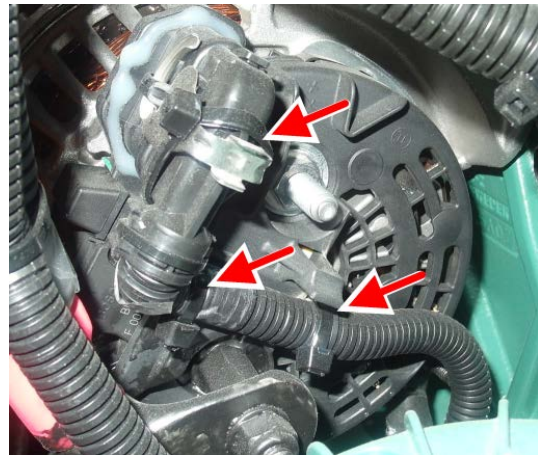

FIGURE 21
26. On the upper alternator, plug alternator harness onto alternator connector and secure using nylon cable ties P/N 504637 positioned as shown by red arrows on **FIGURE 21**.